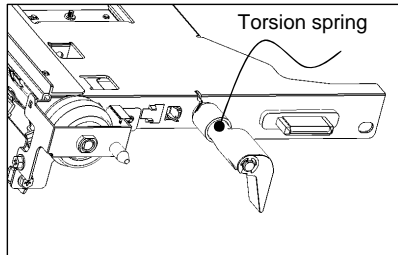

Fig. 9
3)-d Is the torsion spring in the rear side of the unit installed correctly? (Fig. 9)